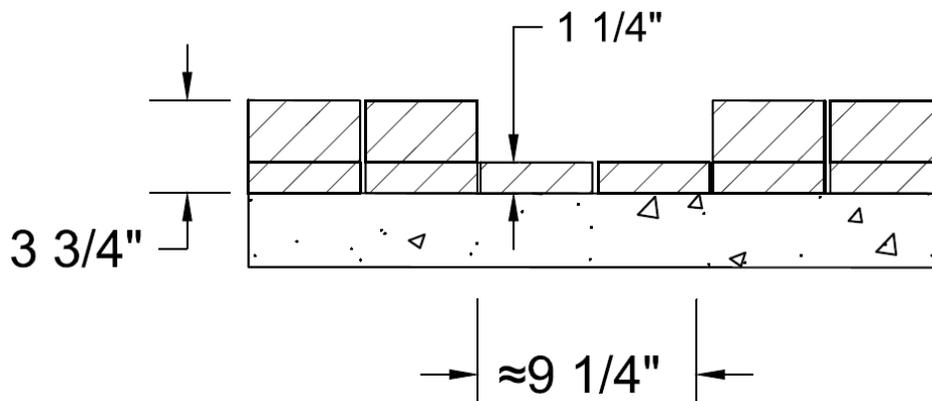

FIGURE 46
- 4) The 48", 60", 72 and 96" XCELUX SEE-THRU fireplaces will require the ISFXLB36/48/60/72 (N/P) (respectively): Gas supply piping for these models shall terminate not less than 3" from sidewall. **(Figure 46)**
- 5) The 120" XCELUX SEE-THRU fireplaces will require the ISFXLB96 (N/P) (respectively): Gas supply stub piping for this model shall terminate within 3" from center of the cavity. **(Figure 46)**